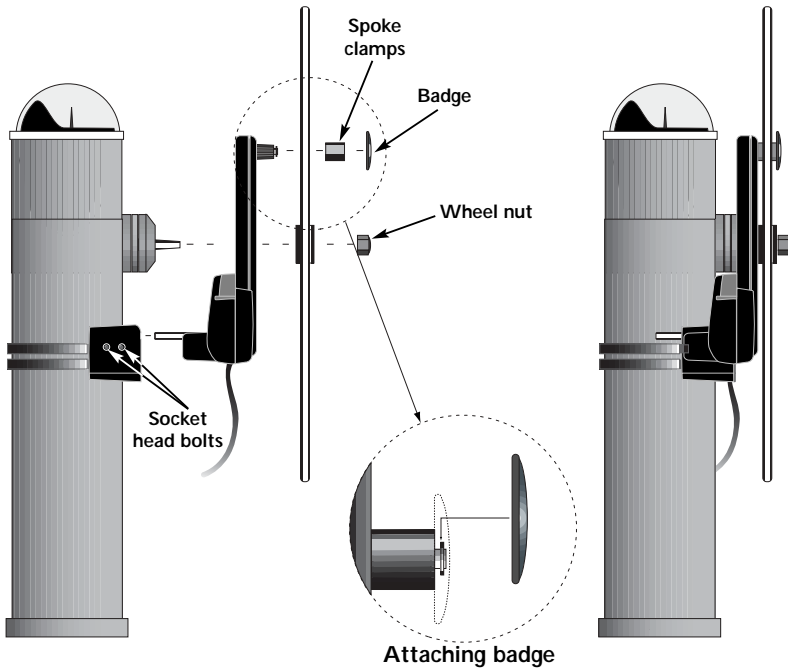

Fig 5.8 - Fitting of Wheelpilot
12. Clip the badge to the spoke clamps (Fig 5.8).